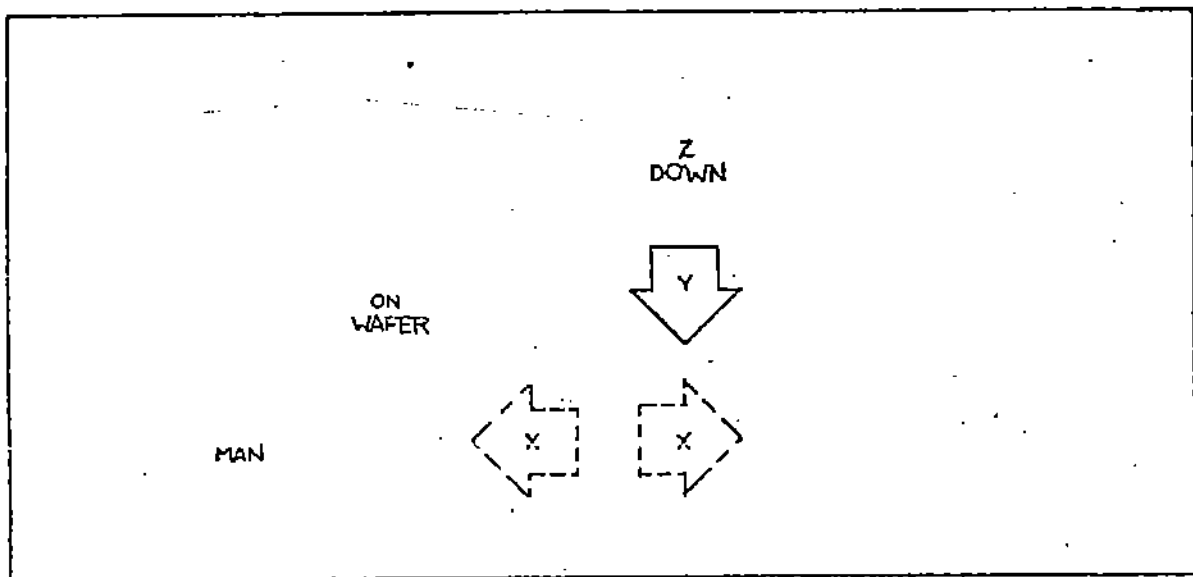

Figure 2-7. Display Panel (Align)
- d. Verify Status Display Panel agrees with Figure 2-7.